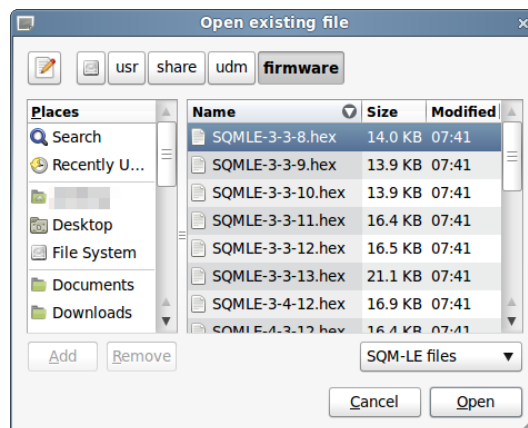

Figure 7.40: Firmware selection
1. Press the “Select Firmware” button to choose the firmware file to load in to the SQM as shown in Figure 7.40: